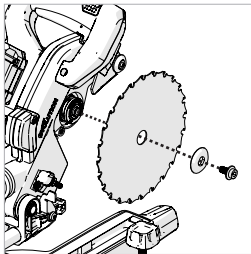

Fig. 19
- Using the supplied Hex Key, release the flange bolt and outer blade flange and the blade from the arbor. **(Fig. 19)**